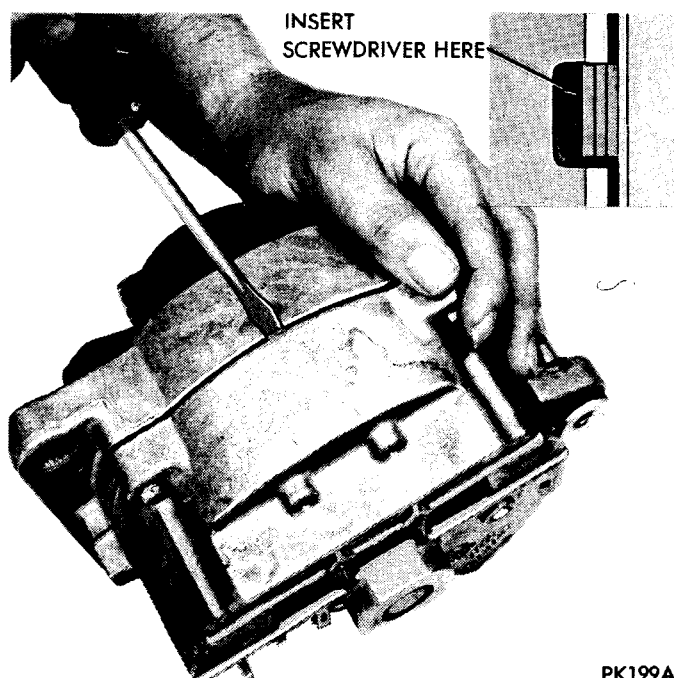

Fig. 43—Separating End Shields
(2) Remove through bolts and pry between stator and drive end shield with blade of a screwdriver in slot provided (Fig. 43). Carefully separate drive end shield, pulley and rotor assembly away from stator and rectifier end shield assembly.